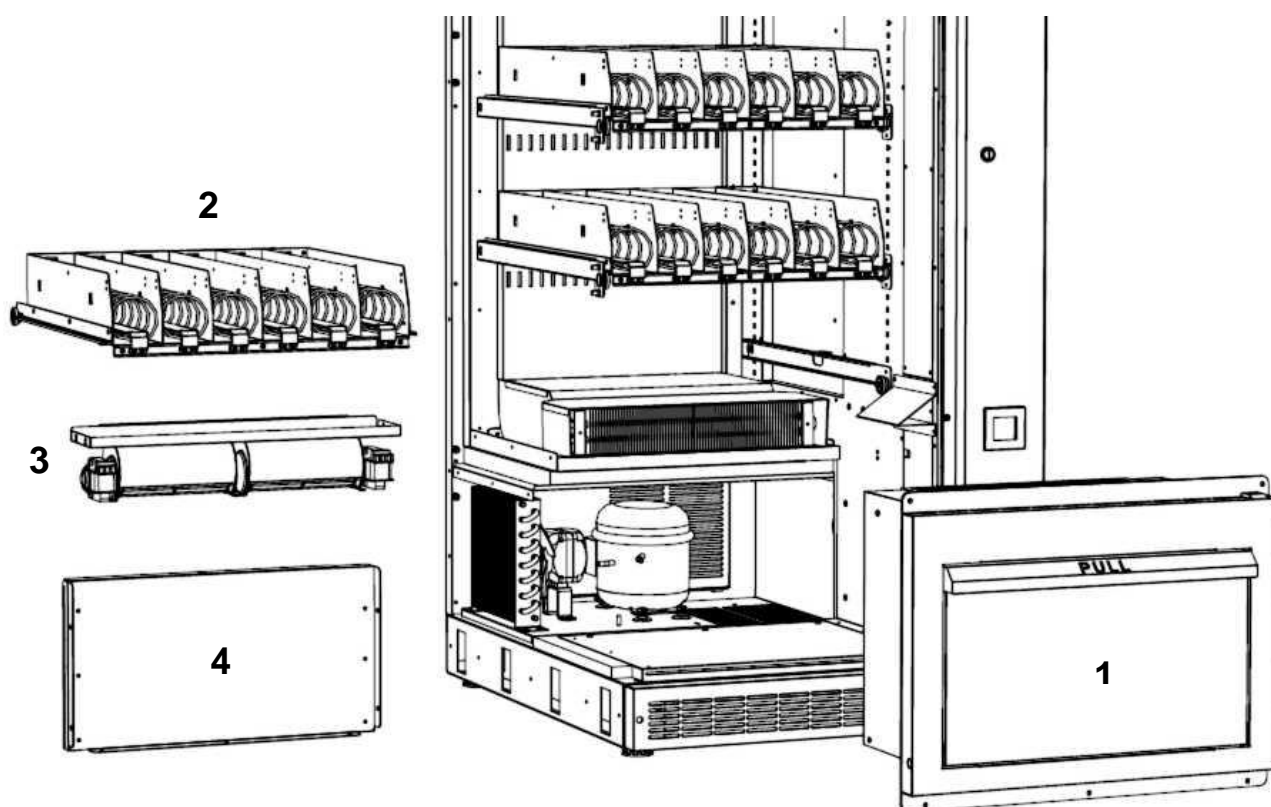

Figure 6.7
- remove the product delivery compartment (Figure 6.7 /1) unscrewing the 5 screws on the angles;
- remove the first bottom shelf (Figure 6.7 /2);
- remove the fan unit (Figure 6.7 /3);
- remove the compressor closing panel (Figure 6.7 /4);